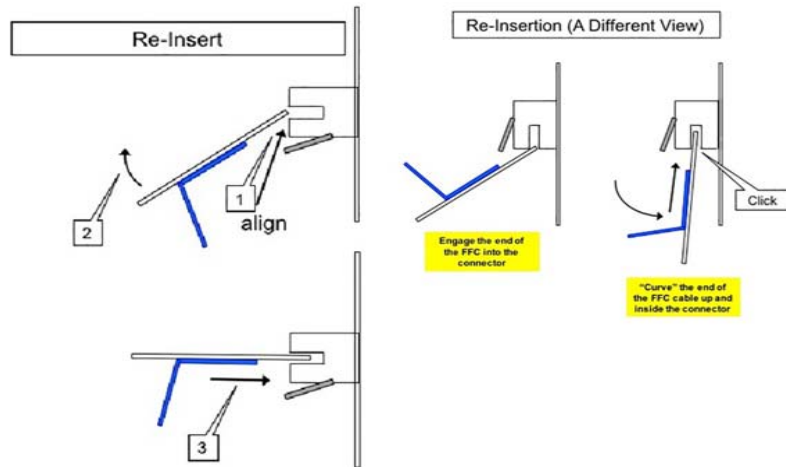

Figure 2 Proper FFC Cable Insertion.
- Refer to Figure 2, grasp the grip tab of the FFC cable placing the back, or non-conductive side, of the FFC cable against the edge of the connector and centered to the connector.